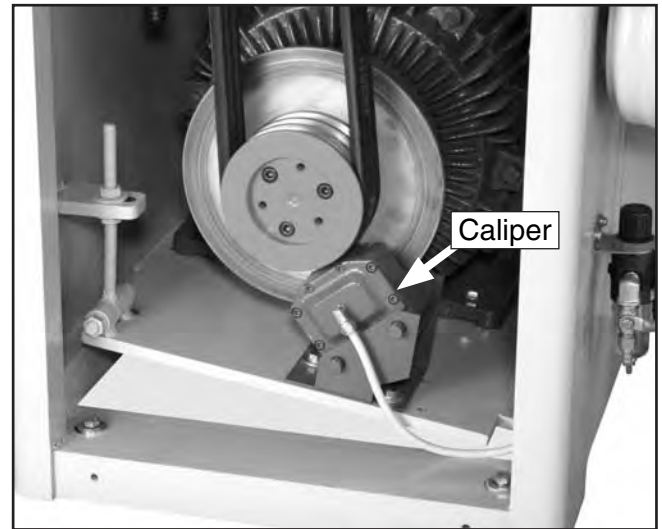

Figure 23. Disc brake.
2. Remove the nuts from the two mounting bolts and the two snap rings from the mounting pins behind the bracket (see **Figure 23**).